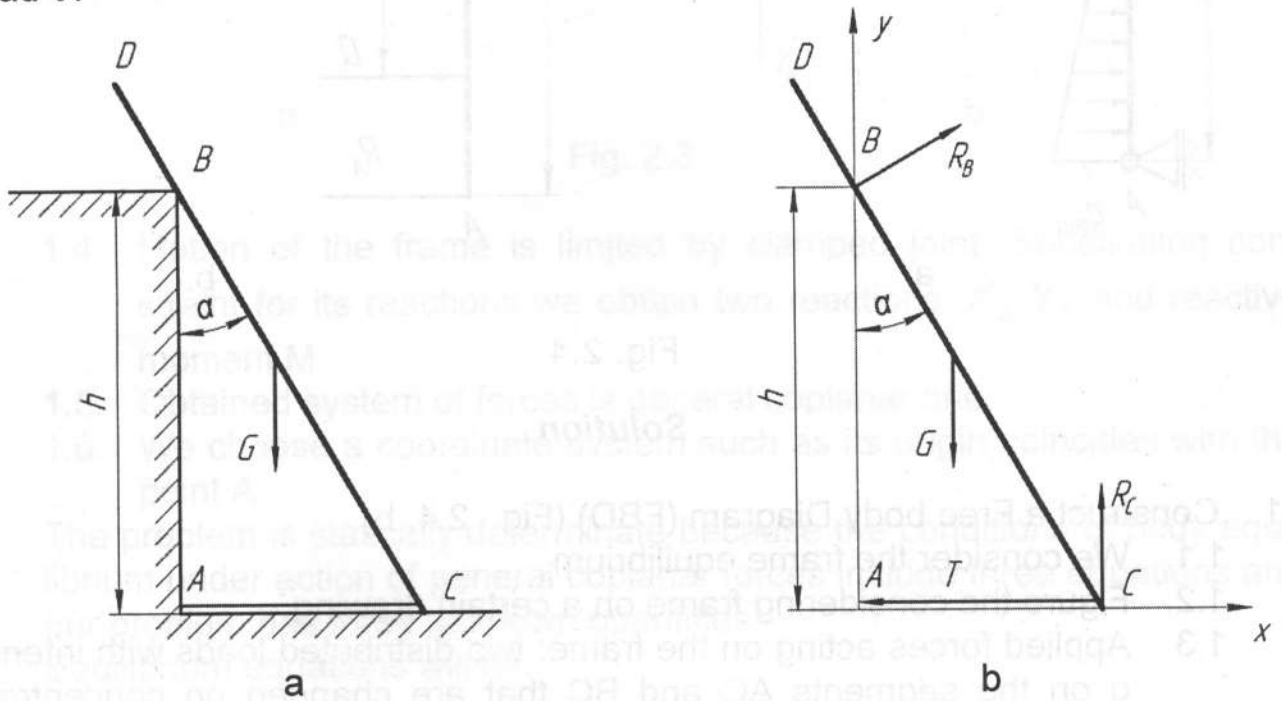

Fig. 2.5
Homogeneous rod **CD** (Fig. 2.5, a) with weight  $G = 600 \text{ N}$  and length  $4 \text{ m}$  is leaned by the end **C** on a smooth surface and by intermediate point **B** on the asperity of height  $h = 3 \text{ m}$  forming with vertical an angle  $\alpha = 30^\circ$ . The rod is held by inextensible rope **AC** that is parallel to the surface.
1. Construct a Free body Diagram (FBD) (Fig. 2.5, b).